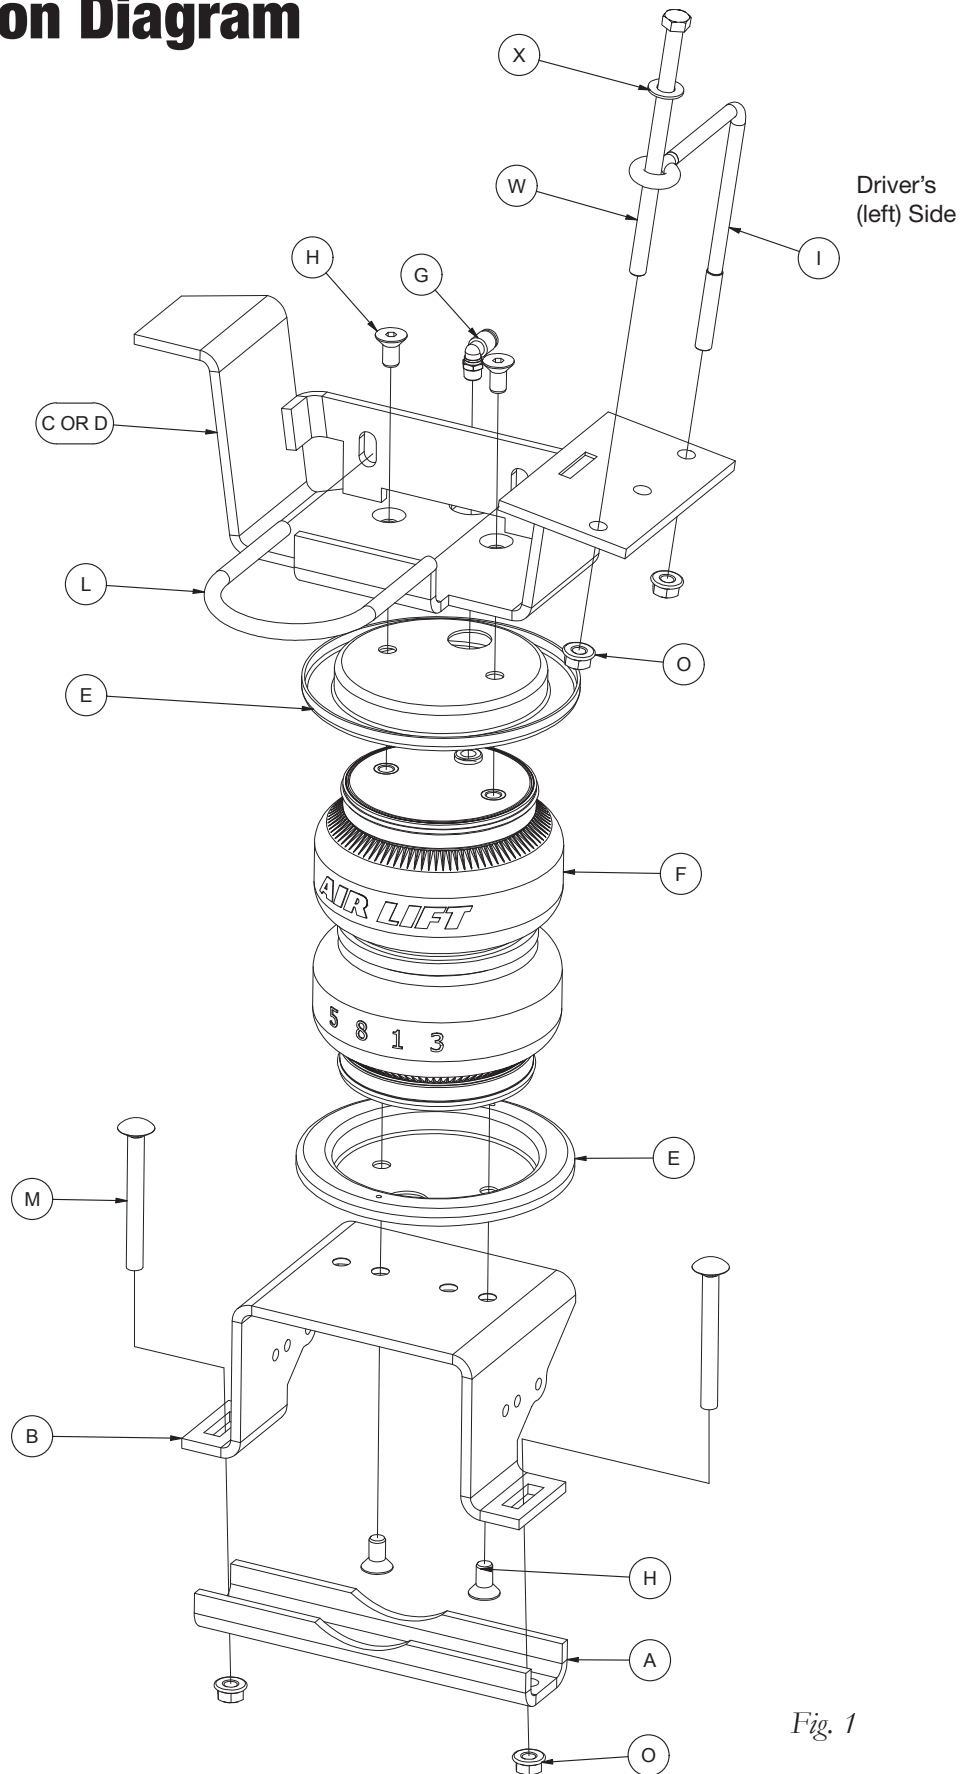

Fig. 1
* These parts are not shown in the Installation Diagram (Fig.1).